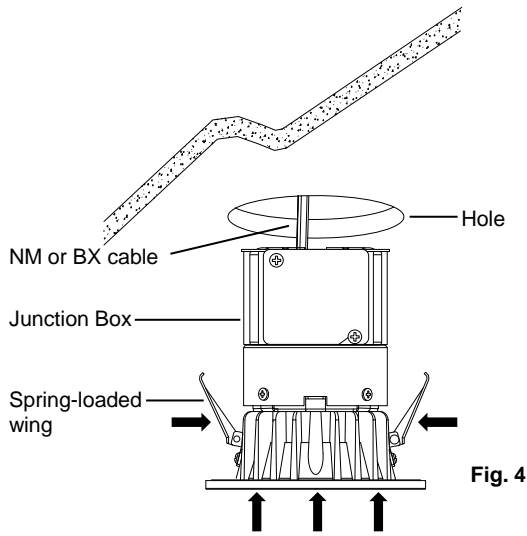

Fig. 4
7. Raise the fixture up to the ceiling hole, while simultaneously pushing the excess NM cable into the hole. (Fig. 4)
8. Flip up and squeeze the spring-loaded wings against the junction box, as shown, and insert the fixture into the hole, junction box first. (Fig. 4)